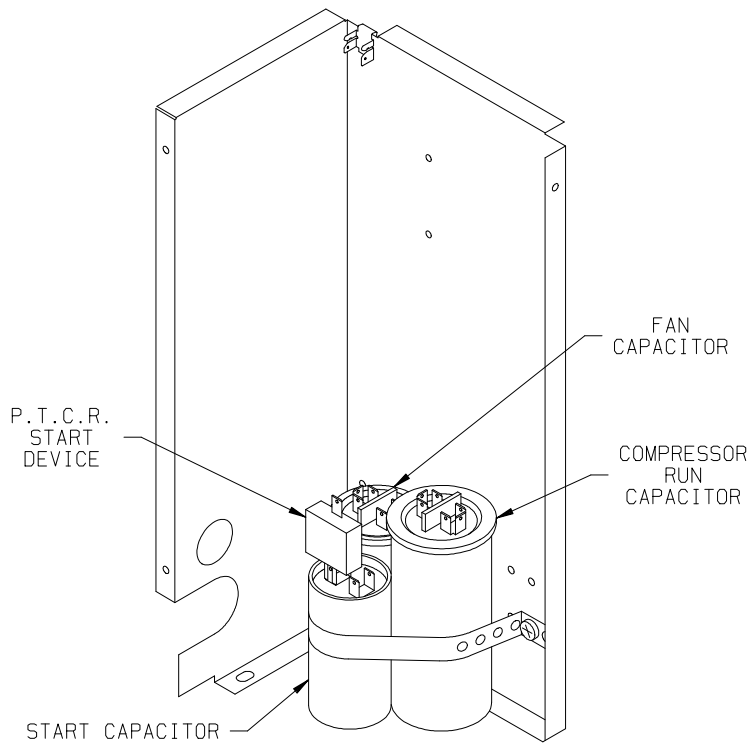

FIGURE 2
Figure 2 shows the junction box with starting components.
3. The start capacitor is installed using the metal strap in the unit. Loosen the screw on the end with multiple holes. Add capacitor to front of others and wrap strap around and fasten strap securely (See Figure 2).